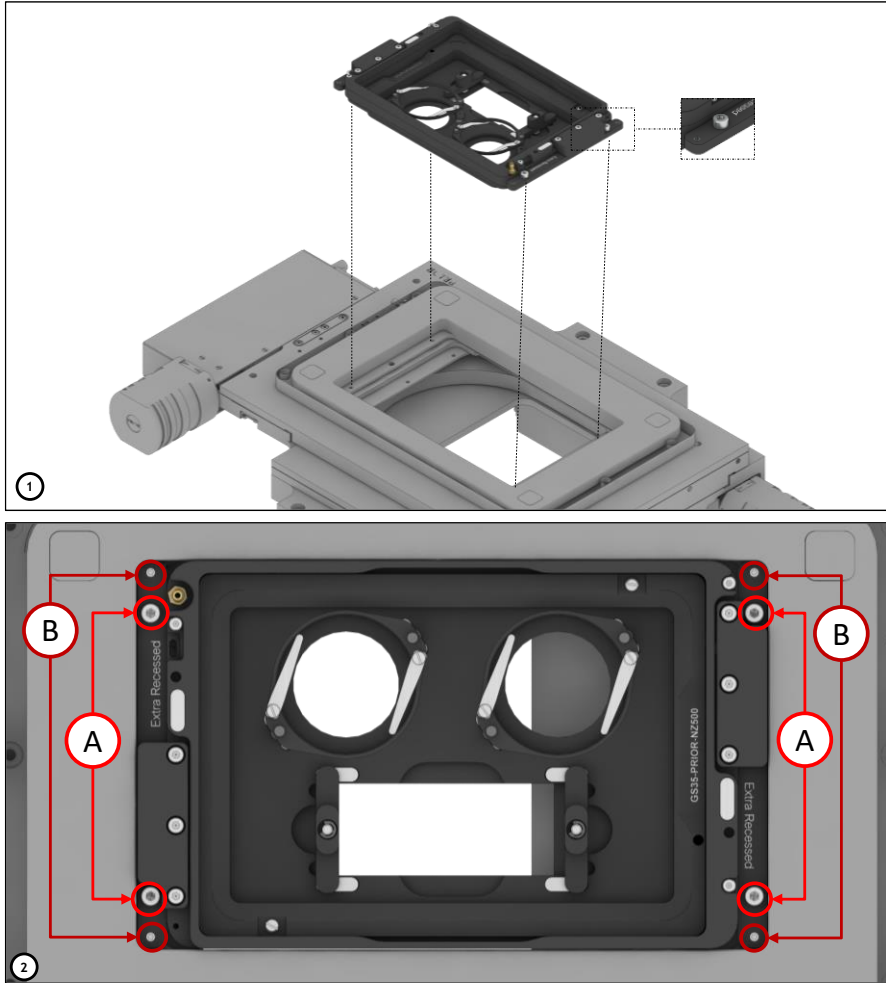

Figure 5. Installation of the chamber on the Stage
To fix H201-PRIOR-SP200-400-600 chamber on the stage, follow the steps shown in Figure 5.
1. Slot the chamber base into the stage, taking care to match the screws position (see 1 in Figure 5).
**NOTE:** Check for the chamber base tilting. If necessary, adjust the chamber base on the stage by turning the grub screws (indicated by letter B in 2, Figure 5). Use a 1.5 hexagonal key to lift the grub screws.
2. Fasten the captive screws indicated by letter A using a 2.5 hexagonal key (see 2 Figure 5).